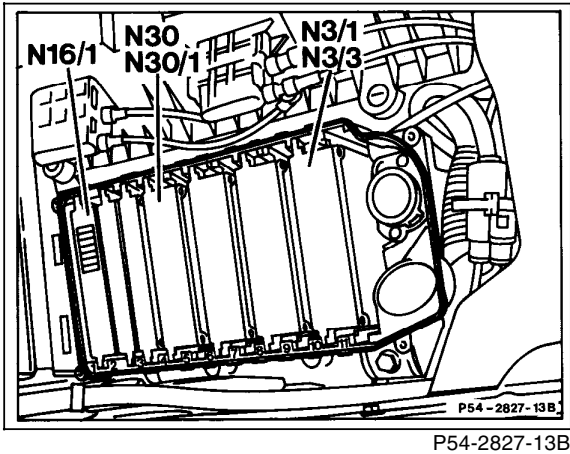
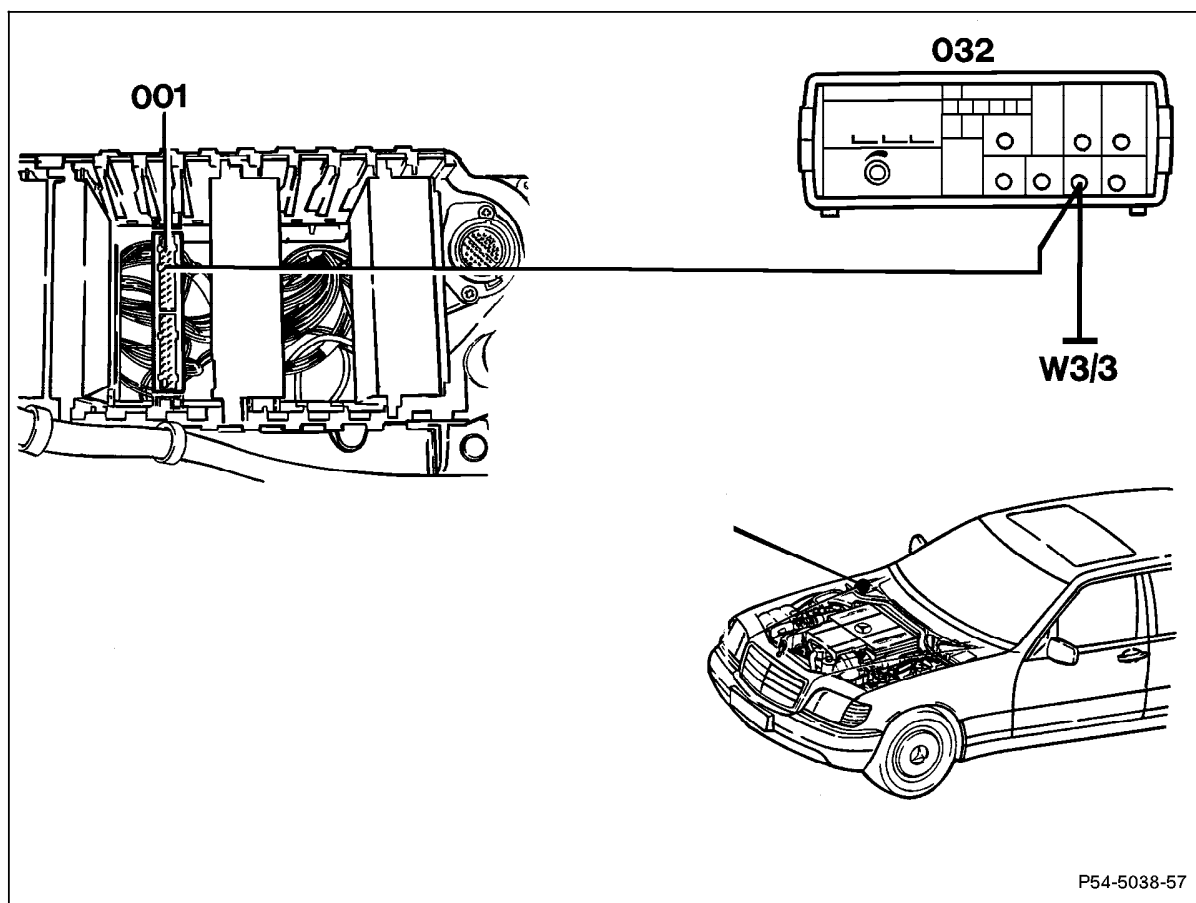

Figure 9
Figure 16
| ⇒ 4.2 | Fuel consumption signal from: LH-SFI control module (N3/1, N3/3) or Engine control module (N3/4) or EDS control module (N39) | <p>LH-SFI control module</p> <p>N3/1 or N3/3</p> <p>W3/3  9 (1)</p> <p>Engine control module</p> <p>N3/4</p> <p>W3/3  7 (1)</p> <p>EDS control module</p> <p>N39</p> <p>W3/3  13 (1)</p> | <p>Ignition: OFF Remove N3/1, N3/3, N3/4 or N39 (Figure 9, 10, 14 and 15).</p> <p>Connect signal generator and set to a voltage amplitude of approx. 10 V (Figure 16).</p> <p>Ignition: ON Activate test mode 2.</p> | <p>LH-SFI, HFM-SFI</p> <p>25 Hz= 5 l/h 50 Hz= 10 l/h 75 Hz= 15 l/h 100 Hz= 20 l/h</p> <p>EDS</p> <p>50 Hz= 5 l/h 100 Hz= 10 l/h 150 Hz= 15 l/h 200 Hz= 20 l/h</p> <p>Note: The readout is only visible on the digital display. The analog reading shows ∞.</p> | <p>Wiring, Electronic circuit board, Values OK: N3/1, N3/3, N3/4 or N39 Engine Vol. 2 – 1.1 23 or – 3.1 23 or – 3.2 23.</p> <p>Note: If no plausible values are indicated while driving and the speedometer is functioning correctly, replace electronic circuit board.</p> |
| ⇒ 7.1 | A1p5 at LH-SFI or diesel engine at HFM-SFI engine | <p>N16/1 W3/3  13 (1)</p> <p>N3/4 W3/3  18 (1)</p> | <p>Remove N16/1 or N3/4 (Figures 9, 10, 14 and 15). Connect signal generator and set to a voltage amplitude of approx. 10 V (Figure 16). Ignition: ON</p> | <p>Engine 104, 120 50 Hz = 1000 rpm. 194 Hz = 4000 rpm.</p> <p>Engine 119 70 Hz = 1000 rpm. 270 Hz = 4000 rpm.</p> <p>Engine 603 2400 Hz = 1000 rpm. 9600 Hz = 4000 rpm.</p> | <p>Wiring, Electronic circuit board, Values OK on LH-SFI or diesel engine: N16/1 DM, Chassis and Drivetrain, Vol. 1 – 1.1 or 1.2 23.</p> <p>Values OK on HFM-SFI engine: N3/4</p> |
| ⇒ 9.0 | Electronic speedometer (A1p8) | <p>ABS only</p>  <p>ASR (with ABS)</p>  | Remove N30 or N30/1, (Figure 9 and 10). Connect signal generator and set to a voltage amplitude of approx. 10 V (Figure 16). Ignition: ON | With increasing frequency the speed on the speedometer must increase. | Wiring, Electronic circuit board. Values OK: N30 or N30/1 DM, Chassis and Drivetrain, Vol. 2 – 6.2 23 or – 5.2 23. |